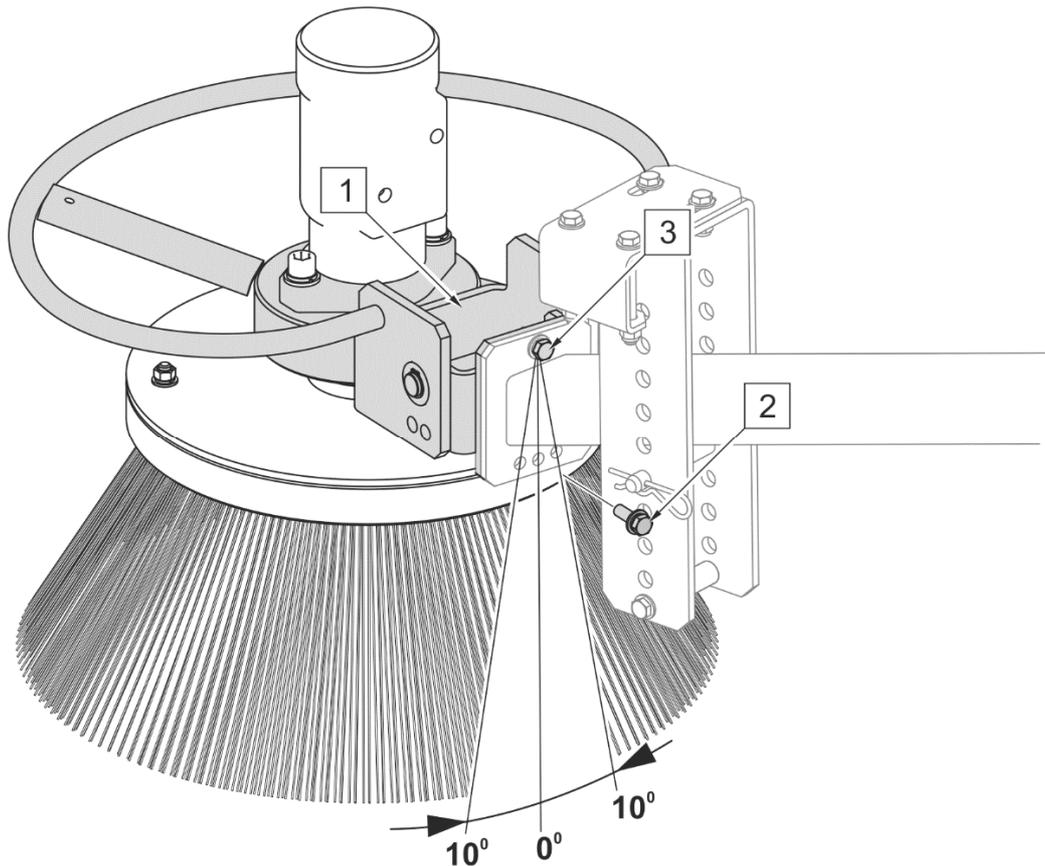

FIG. 5.6 **Adjustment of lateral tilt**
(1) - brush head bracket, (2) - retaining bolt, (3) - fixing bolt
To change the lateral tilt angle (FIG. 5.6), remove retaining bolt (2), loosen fixing bolt (3) and turn bracket (1) to the right or left side so as to place bolt (2) in the corresponding hole. Tighten fixing bolt (3) after the adjustment of lateral tilt of side brush.